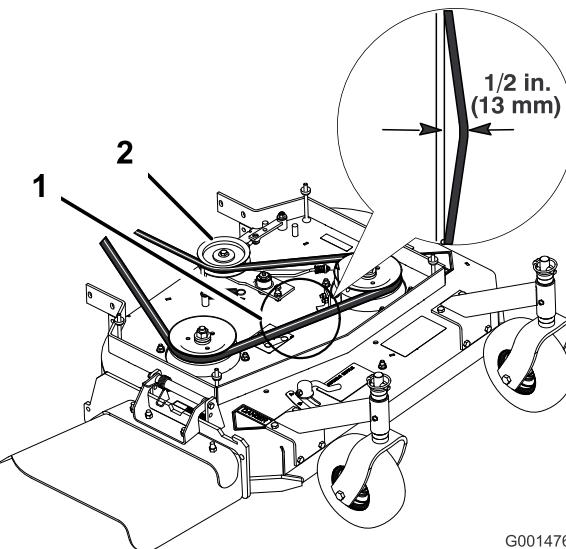
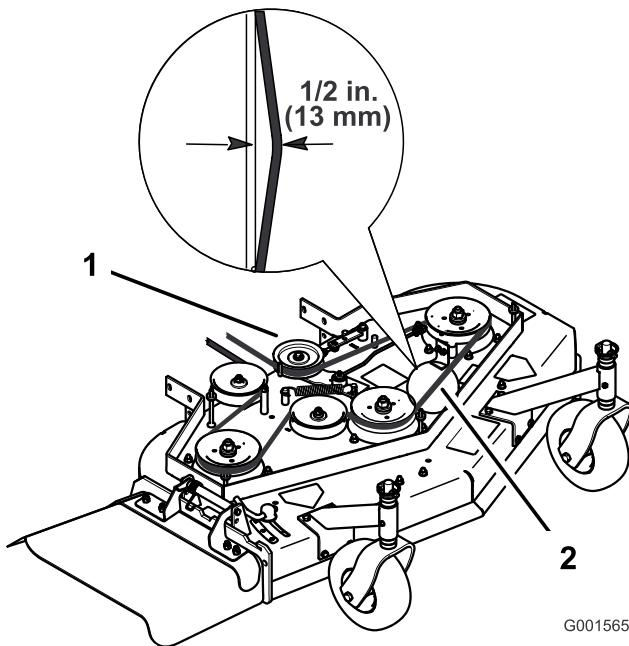

Figure 44
Figure 45
Note: The proper mower belt tension is 10-15 lbf. (44-67 N) with the belt deflected 1/2 inch (13 mm) halfway between the pulleys (Figure 44 or Figure 45).
3. Loosen the locknut on the turnbuckle (Figure 44).
4. Rotate the turnbuckle toward the rear of the mower to increase the tension on the belt. Rotate the turnbuckle toward the front of the mower to decrease the tension on the belt (Figure 44).
Note: The proper mower belt tension is 10-15 lbf. (44-67 N) with the belt deflected $1/2$ inch (13 mm) halfway between the pulleys (Figure 44).
Note: The proper mower belt tension is 10-15 lbf. (44-67 N) with the belt deflected $1/2$ inch (13 mm) halfway between the pulleys (Figure 45).